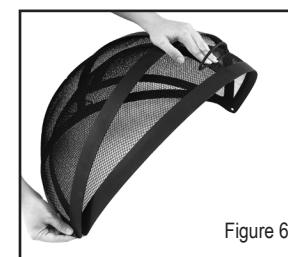

Figure 6
Connect screen halves together by inserting a Hinge Bolt (C) through each screen side and fasten with nuts. (Figure 6).